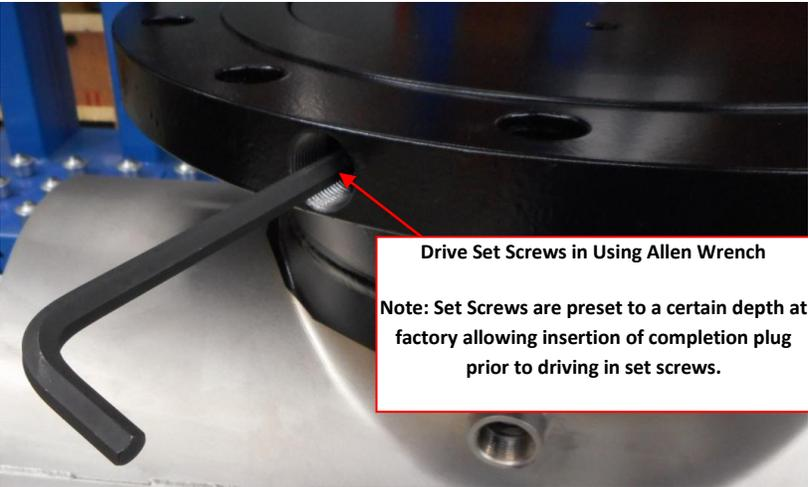

Fig. 4
Step 5. Drive set screw into Set Screw Groove of Completion Plug. (See Fig 4) Once the set screws are Bottomed out, back off each set screw by a 1/4 Turn. **Set Screws should bottom out after ‘X’ amount of turns, per Table 1, from the preinstalled position.**